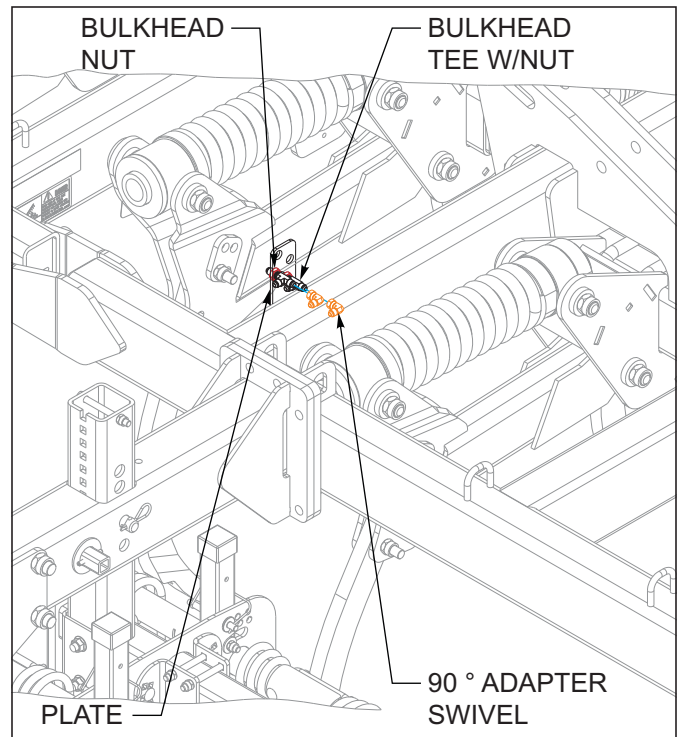

Figure 3-31: Bulk Head Fittings Installation
6. On hydraulic Chopper Reel option, install the bulkhead tee w/nut and 90° adapter swivel to plate on frame as shown *See Figures 3-31.*